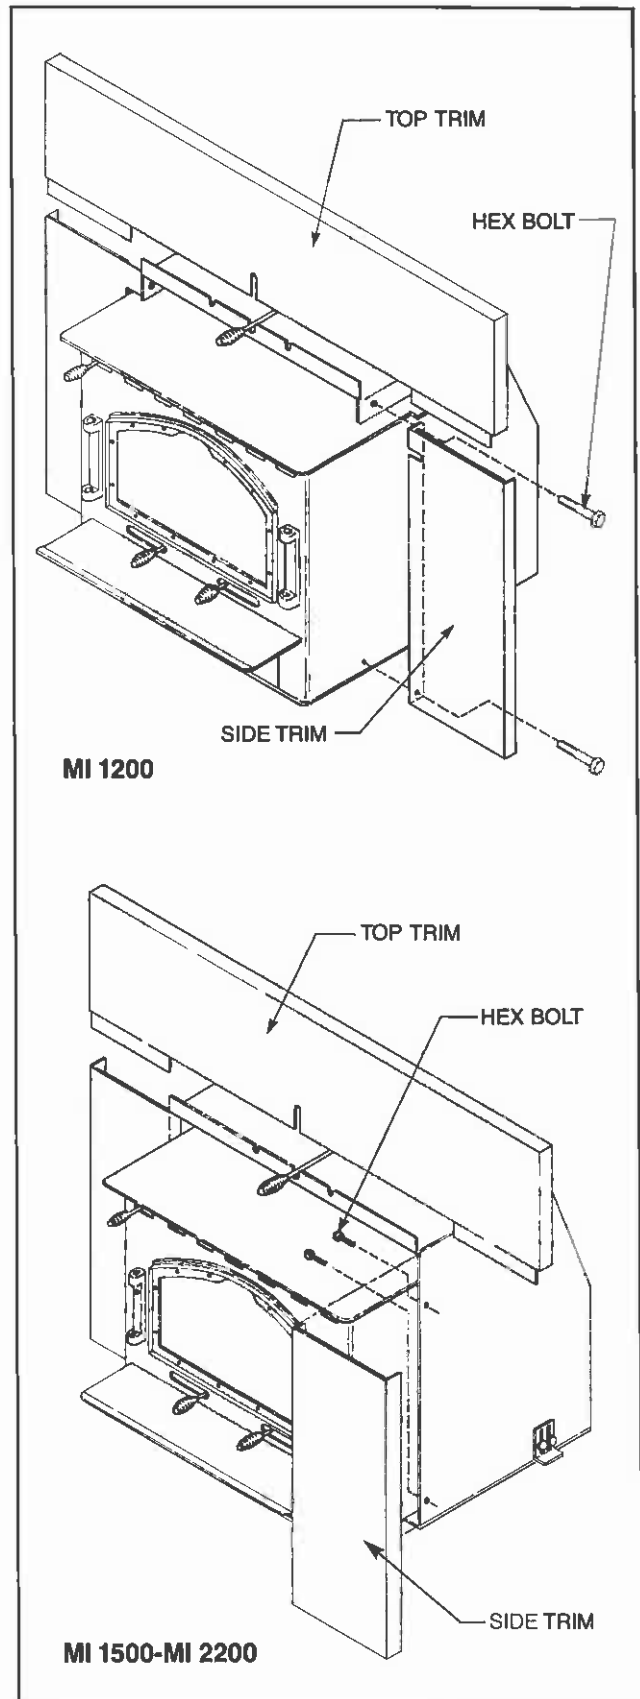

Fig. 6. Assemble trim kit.
- C. Mount the 2 side pieces on the unit with the bolts provided. Top surround panel will then fit over side pieces sliding tabs in top pieces into slots in each side piece (See Fig. 6). Bend out insulation spikes on back of trim pieces and carefully push insulation pieces over spikes. Bend spikes down to secure.